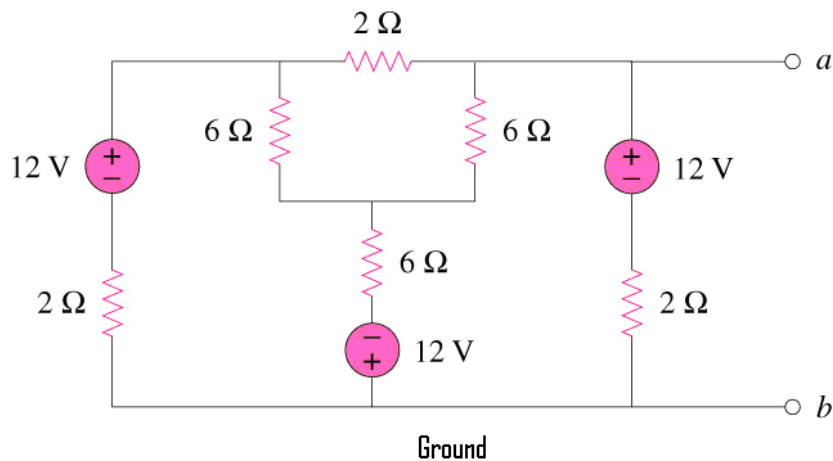

Figure 2
2. Solve the circuit of Figure 2 below using the **Node Voltage method**. Notice that two of the essential nodes are labelled *a* and *b*. There are two other essential nodes. Label the one at the top of the 12 V source *c* and the remaining one *d* (where is it?).
Part 3. Construct and solve the circuit of Figure 2 above using PSpice.